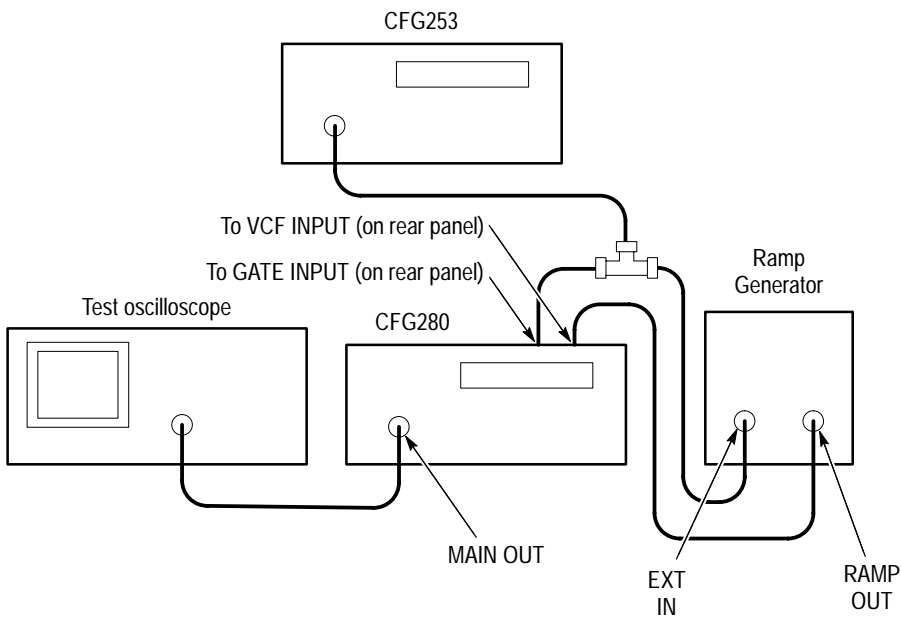

Figure 8: Tone-Burst and Stepped Frequency Multiplication Test Setup
1. Connect the **MAIN OUT** connector on the CFG280 Function Generator to the oscilloscope input connector (see Figure 8).
2. Connect the ramp generator output to the **VCF INPUT** connector on the rear of the CFG280 Function Generator (see Figure 8).
3. Connect the **MAIN OUTPUT** of the CFG253 to a BNC T connector. Connect the BNC T outputs to the **GATE INPUT** connector on the CFG280 Function Generator and the external input on the ramp generator (see Figure 8).